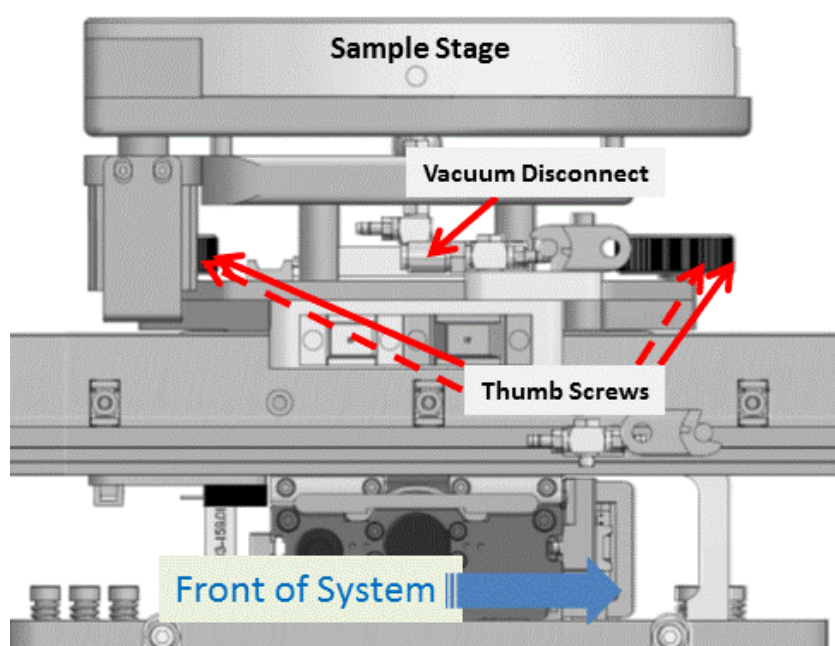

Figure 3-7. Vacuum disconnect and thumb screw locations.
5. Replace the sample chuck, tighten the (4) black thumb screws, and reconnect vacuum as shown in Figure 3-7.
6. Attach the source unit to the source tilt stage on the base using (4) M3 socket head screws with the cable connectors pointing to the rear of the base.